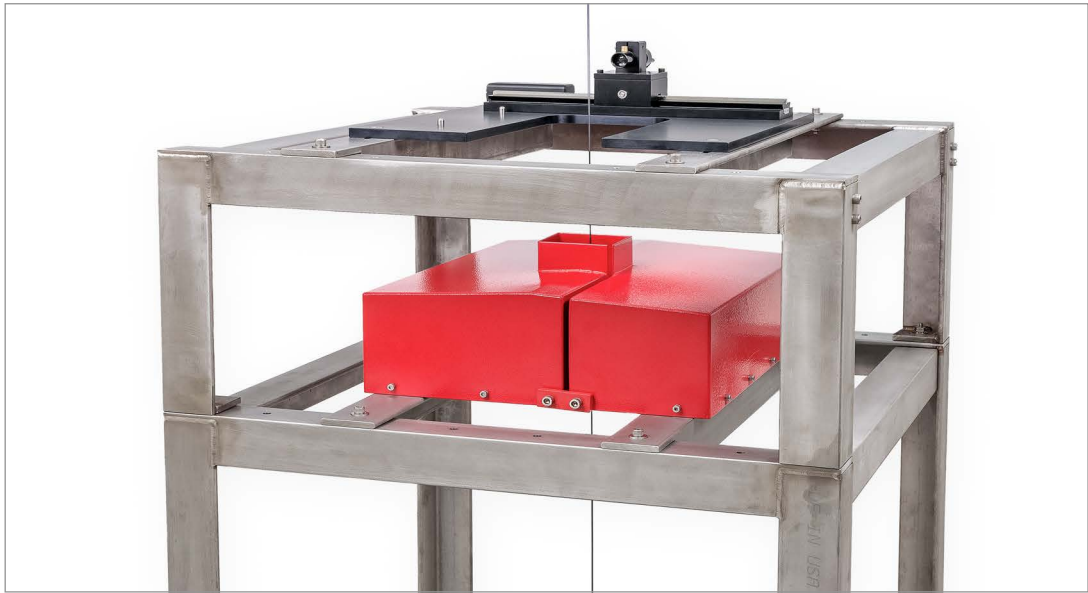

FIGURE 28: *Optical Readout and Table Mounted to Measurement Table*
1. Mount the assembled optical readout and table to the top of the measurement table using the four cap screws and lock washers provided (Figure 28). Make sure that the holes in the top rails of the upper table line up with the matching holes in the lower table.